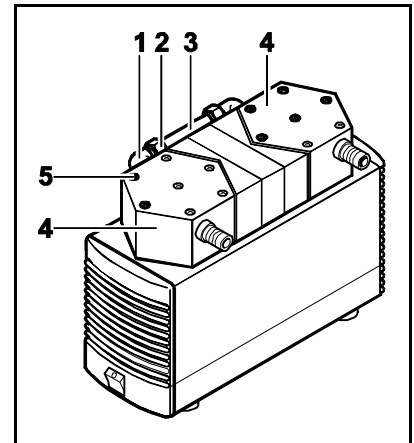

Fig. 4: Removing pump head
3. Loosen the outer screws (fig. 4/5) on the pump head/pump heads.